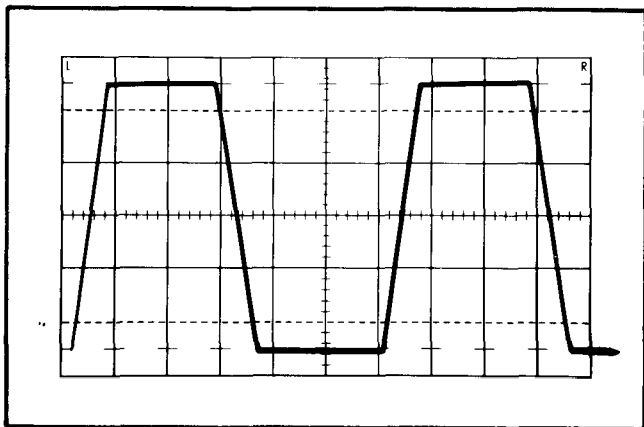

Fig. 5-5. Type R116 output pulse which should be obtained if instrument is operating properly.
- a. If no pulse appears, start at the beginning of the troubleshooting chart, point (A).
- b. If a pulse appears but is improperly shaped (compared to Fig. 5-5), start at point (B) of the troubleshooting chart.
c. If the undelayed pulse is similar to the pulse seen in Fig. 5-5 but a problem arises in other modes of operation or in external triggering, start at point (C) on the troubleshooting chart according to the trouble symptom.